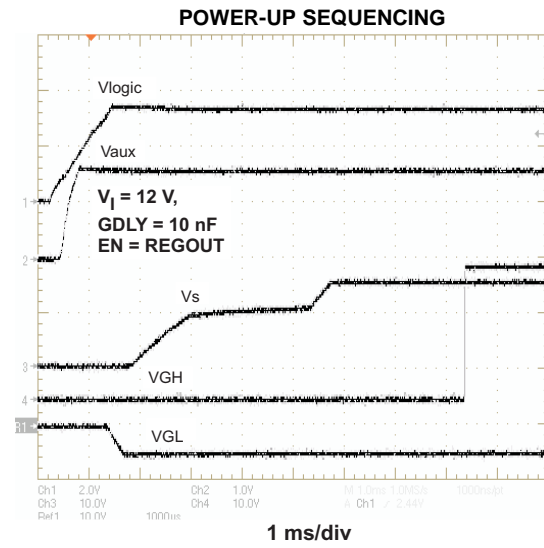
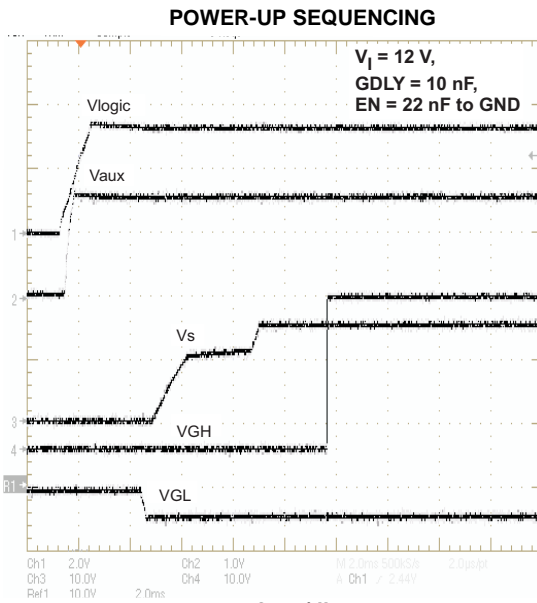
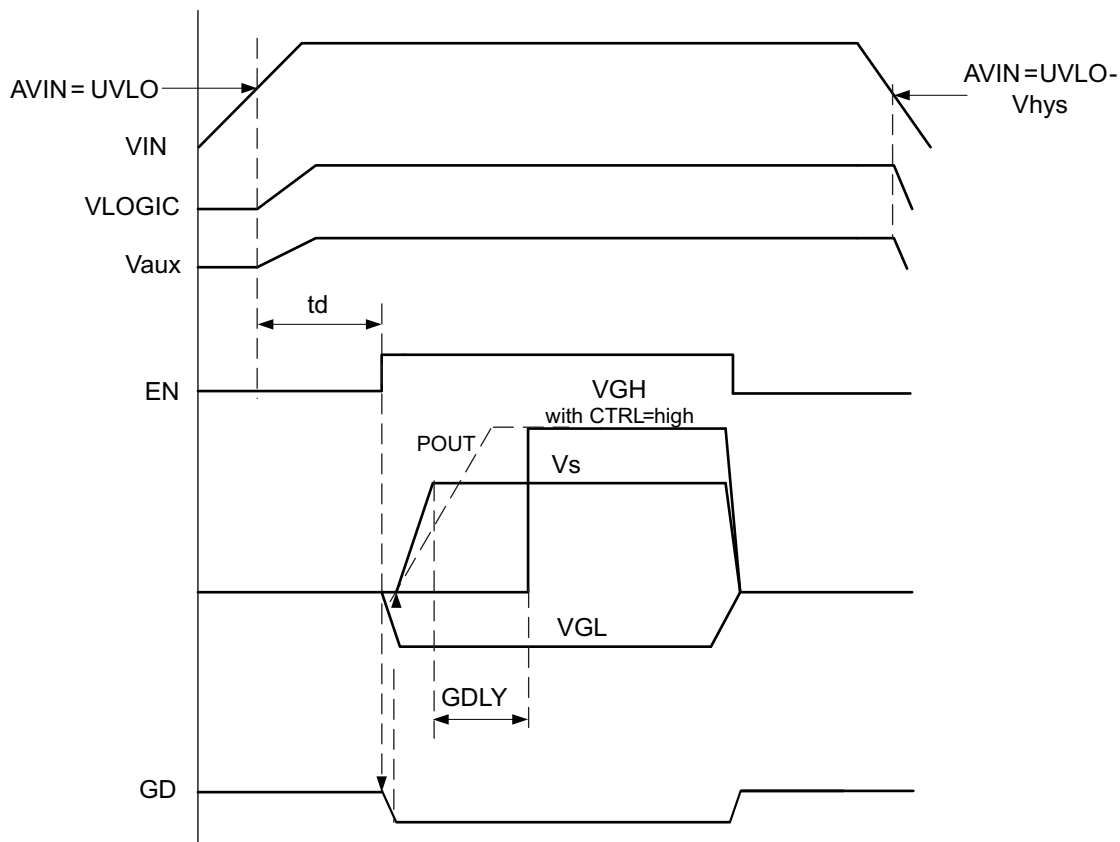

Figure 18.
Figure 19.
Figure 23. Power Up Sequencing
The device has an adjustable start-up sequencing to provide correct sequencing as required by LCD. When the input voltage exceeds the undervoltage lockout threshold, then the step-down converter and LDO controller start-up at the same time. As the enable signal (EN) goes high, the negative charge pump starts up followed by the boost converter V_s starting at the same time as the positive charge pump. See the typical curves shown in Figure 18, Figure 19, and Figure 23.
If no logic control signal is available, it is also possible to connect a capacitor to this pin to set the delay time t_d as shown in Figure 23 and Figure 19.